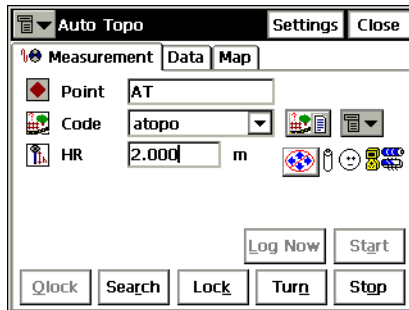

Figure 6-40. Auto Topo
2. Enter the point name, code and the height of the rod (Figure 6-40 on page 6-35).